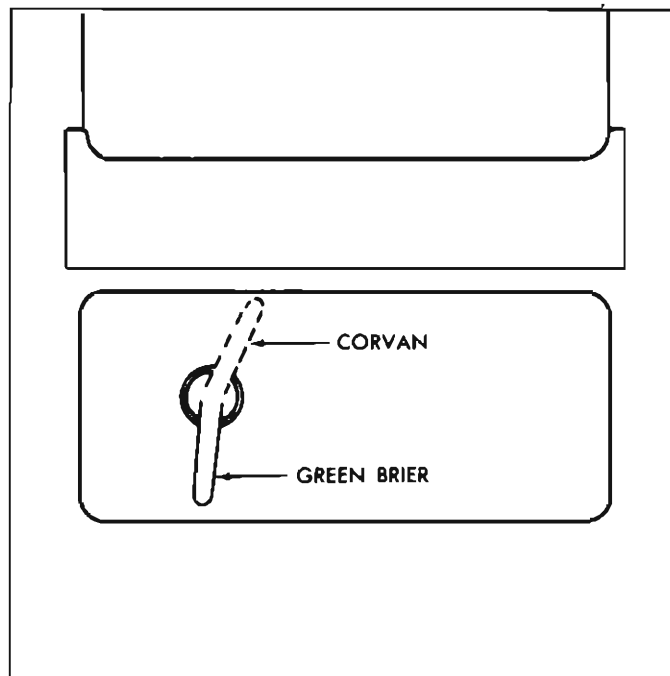

Fig. 84—Side Rear Door Inside Handle Installation
4. Install side door handle as shown in Figure 84.